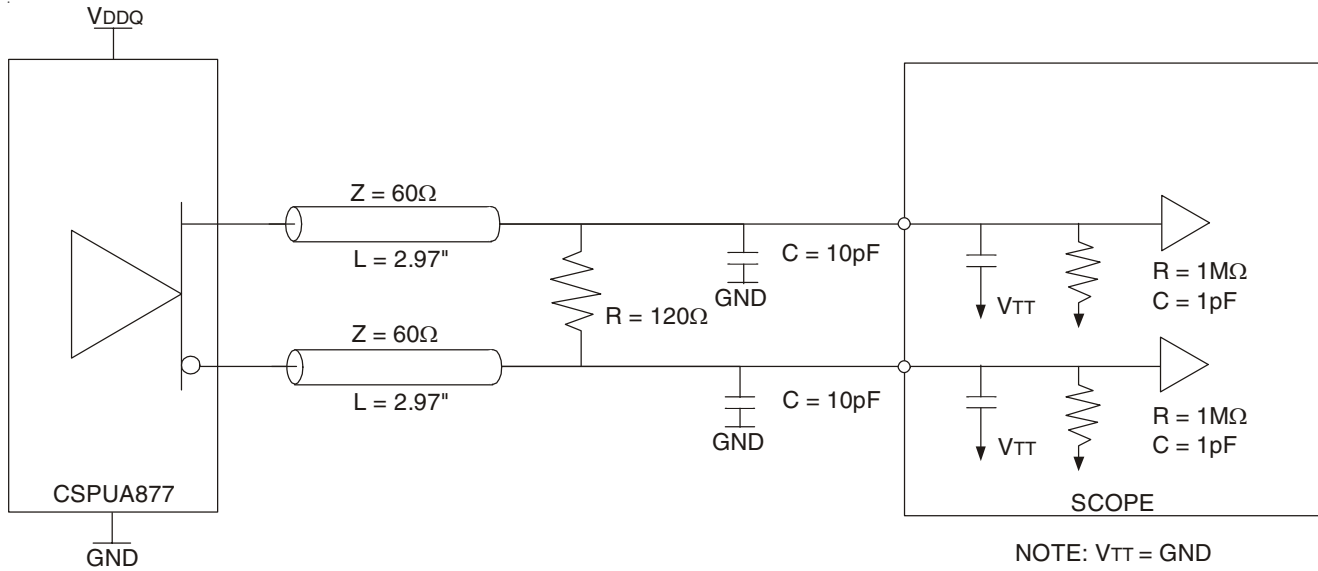

Figure 1: Output Load Test Circuit 1
- There are two different terminations that are used with the above AC tests. The output load shown in figure 1 is used to measure the input and output differential pair cross-voltage only. The output load shown in figure 2 is used to measure all other tests, including input and output slew rates. For consistency, use 50 Ω equal length cables with SMA connectors on the test board.
- In the frequency range of 271 - 410MHz, the min and max values for t_{JIT}(PER) and t_{(\emptyset)DYN}, and the max value for tsk(O), must not exceed the corresponding min and max values of the 160 - 270MHz range. Also, the sum of the specified values for | t_{JIT}(PER) |, | t_{(\emptyset)DYN} |, and tsk(O) must meet the requirement for Σ t(SU), and the sum of the specified values for | t_{(\emptyset)DYN} | and tsk(O) must meet the requirement for Σ t(H).